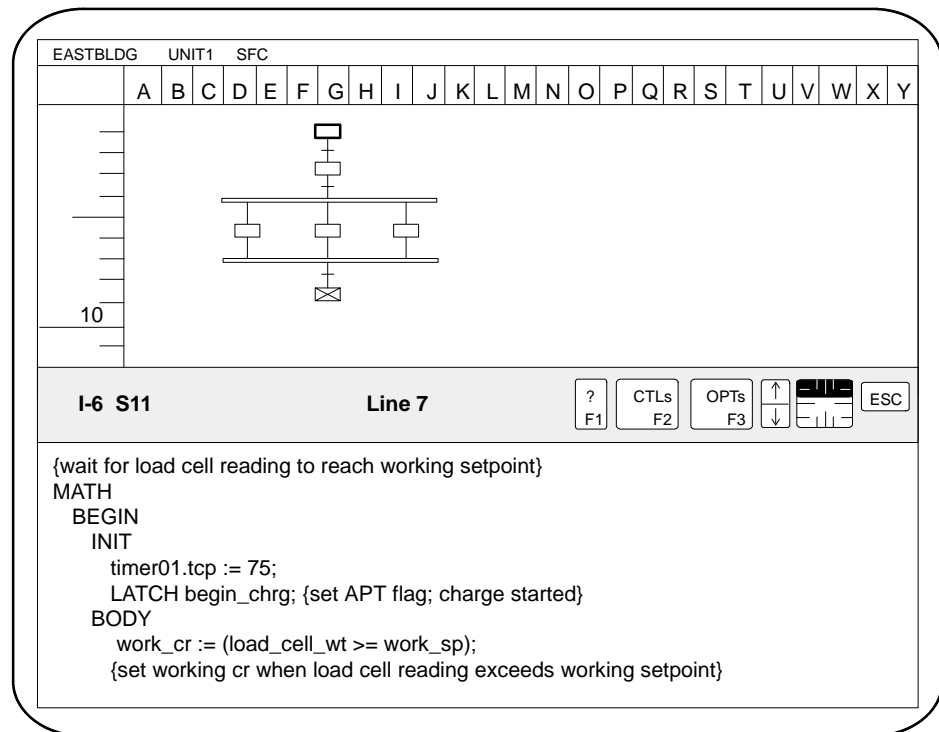

Figure 10-1 Math Section in an SFC
- A math block can appear as the math section of a step in a Sequential Function Chart (SFC). See Figure 10-1.